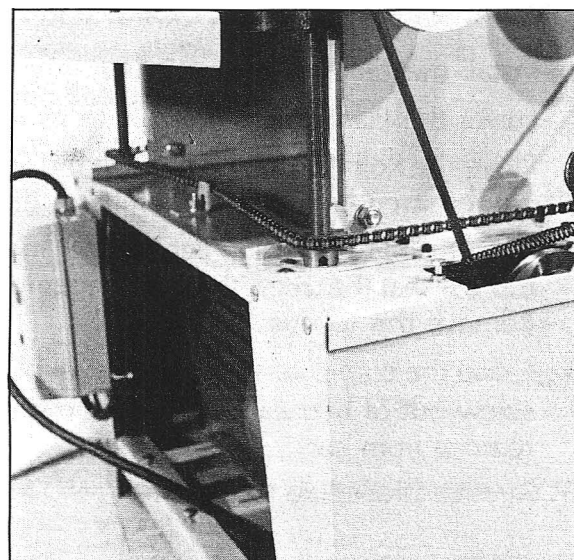

Fig. 16
4. Remove the chain from the corner sprockets. (fig. 16)